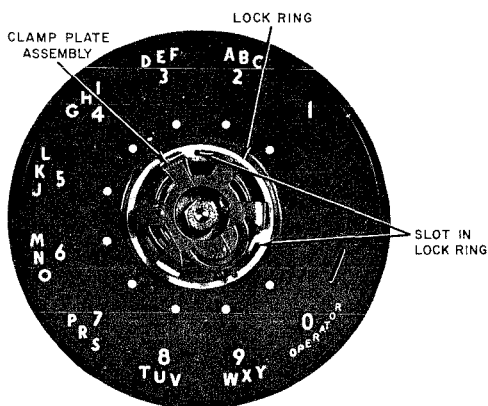

Fig. 6 — Fingerwheel and Finger Stop Removed to Show Lock Ring
- (3) Insert tip of screwdriver blade into one of the three slots on the lock ring (Fig. 6).